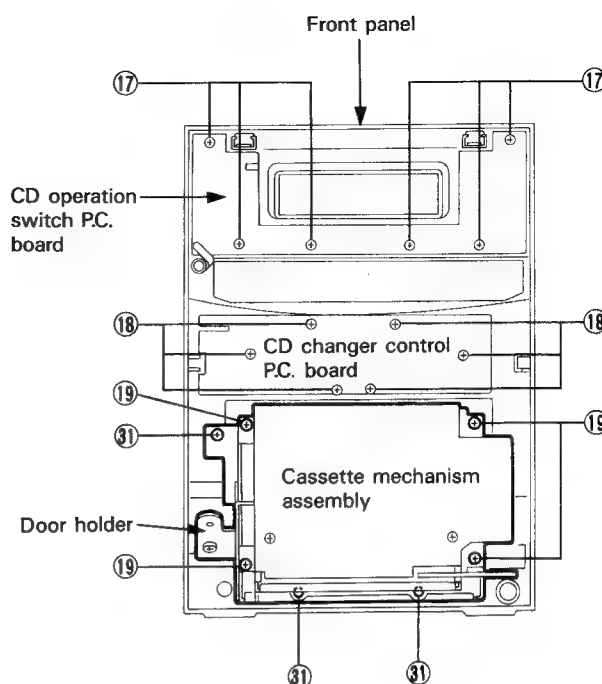

Fig. 7-16
■ **Method of removing the CD operation switch P.C. board, CD changer control switch P.C. board and so forth** (Refer to Fig. 7-16).
7. From the front panel assembly, remove the six screws (17) retaining the CD operation switch P.C. board.
8. Remove the six screws (18) retaining the CD changer control switch P.C. board.
(Refer to Fig. 7-16).